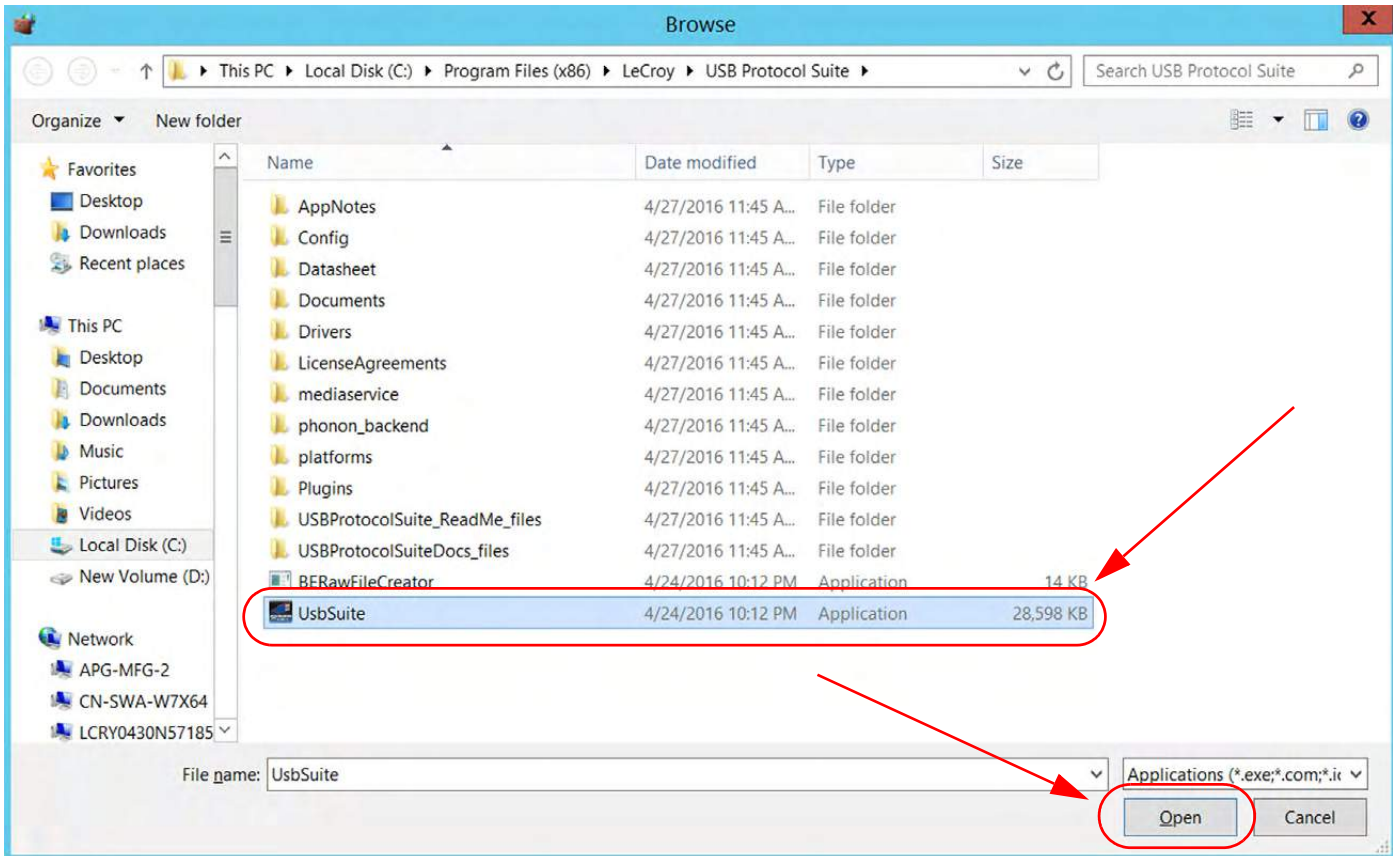

Figure 3.7: Windows Server 2012: Browse to Find Application -> USB Protocol Suite Application
7. In the Browse window navigate to the location of the installation directory for the USB Protocol Suite you are installing. The Teledyne LeCroy USB Protocol Suite is typically installed on your machine in the C:\Program Files (x86)\LeCroy\USB Protocol Suite directory. See Figure 3.7.